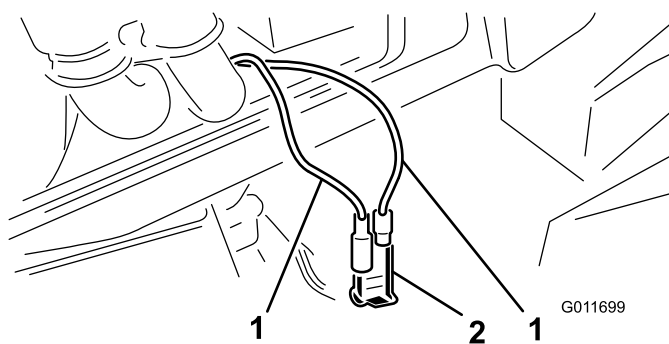

Figure 59
3. Locate the two capped counterbalance jumper wires inside the compartment (Figure 59).